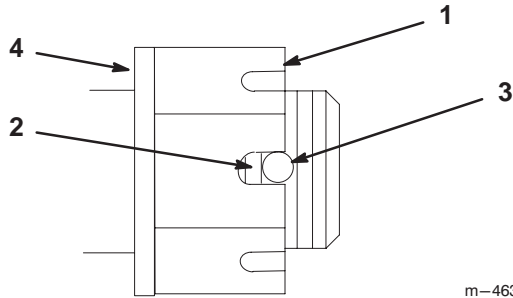

Figure 36
3. Torque slotted nut to 125 ft-lbs (169.5 N•m) (Fig. 36).
4. Check the distance from bottom of slot in nut to inside edge of hole. Two threads or less should be showing (Fig. 36).
5. If more than two threads are showing remove nut and install washer between hub and nut (Fig. 36).
6. Torque the slotted nut to 125 ft-lbs (169.5 N•m) (Fig. 36).
7. Tighten nut until the next set of slots line up with the hole in the shaft (Fig. 36).